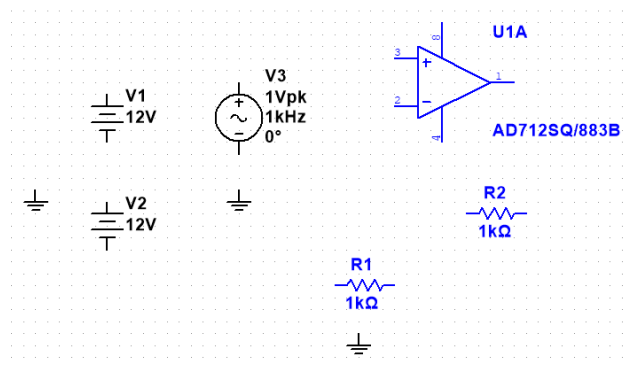

Figure 11. The components for a non-inverting amplifier.
2. On **Place** menu click on **Components** and from the **Select a Component** window place the following components on the workspace, as in Figure 11. Their exact position is not important at this stage. You will arrange them later.